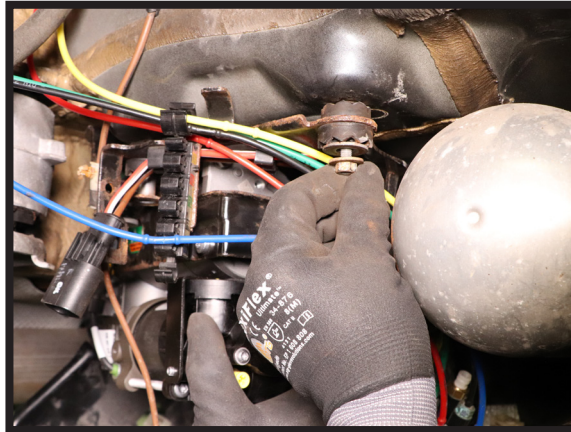

FIGURE 31
5. REUSE THE FACTORY MOUNTING HARDWARE TO SECURE THE COMPRESSOR BRACKET ASSEMBLY. (FIGURE 31)